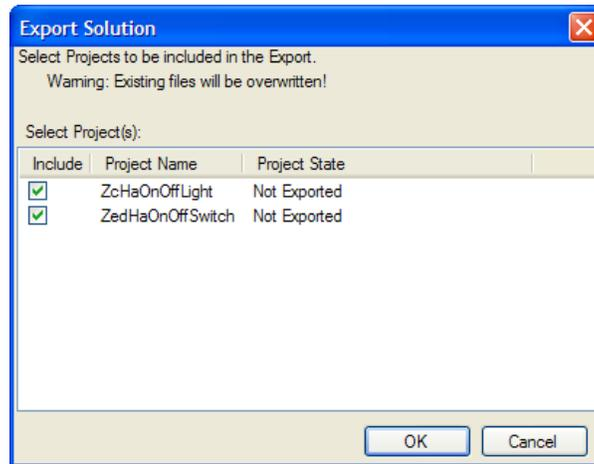

Figure 3-14. Export BeeKit Project Solution Window
1. From the Solution menu, select Export Solution. BeeKit verifies the internal consistency of the configuration, looking for such errors as two endpoints with the same number. If the verification succeeds, the window that opens will display all the created devices, each with a checked box as shown in Figure 3-14.